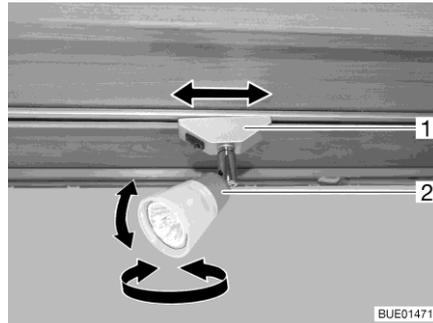
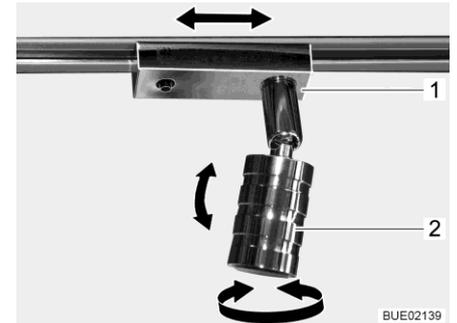

Fig. 62 Spotlight
Fig. 63 Spotlight (alternative)
- Grasp the housing (Fig. 62,2 or Fig. 63,2) and turn it.
- Grip socket (Fig. 62,1 or Fig. 63,1) and turn by approx. 45°.
- Grip socket (Fig. 62,1 or Fig. 63,1) and turn by 90°.